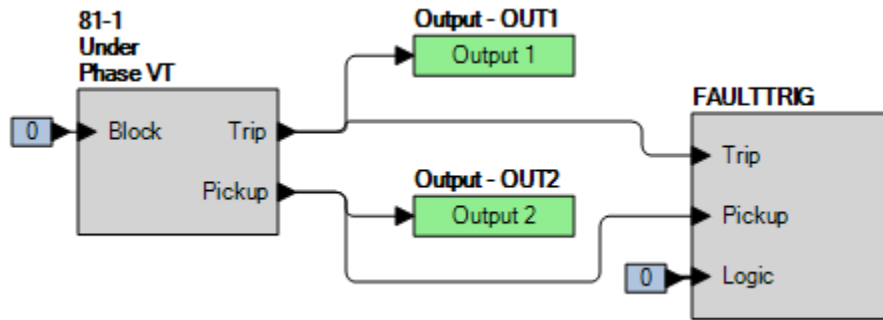

Figure 62-2. BESTlogic*Plus* Settings (Underfrequency)
Step 2: Use BESTCOMS*Plus* to configure the BESTlogic*Plus* programmable logic shown in Figure 62-2.
Step 4: Prepare to monitor the 81-1 function operation. Operation can be verified by monitoring OUT2 (see Figure 62-2).